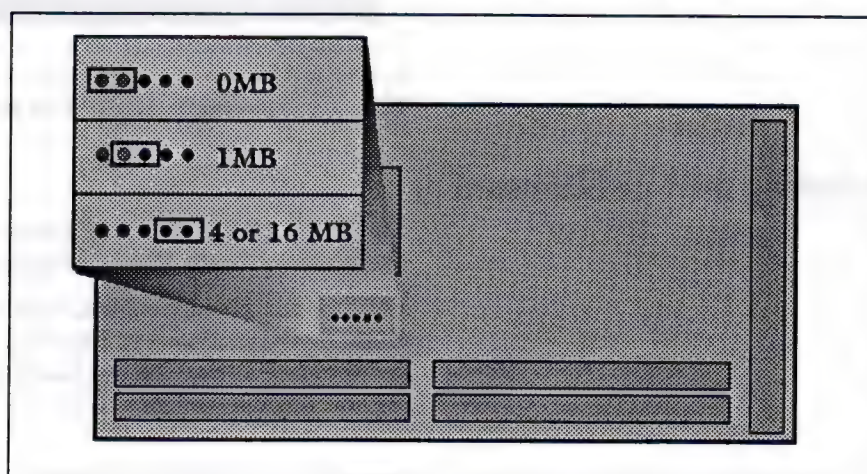

Figure 21 : The memory size jumpers
2. Set the wait state jumper to correspond to the type of memory you are installing as shown in figure 21.